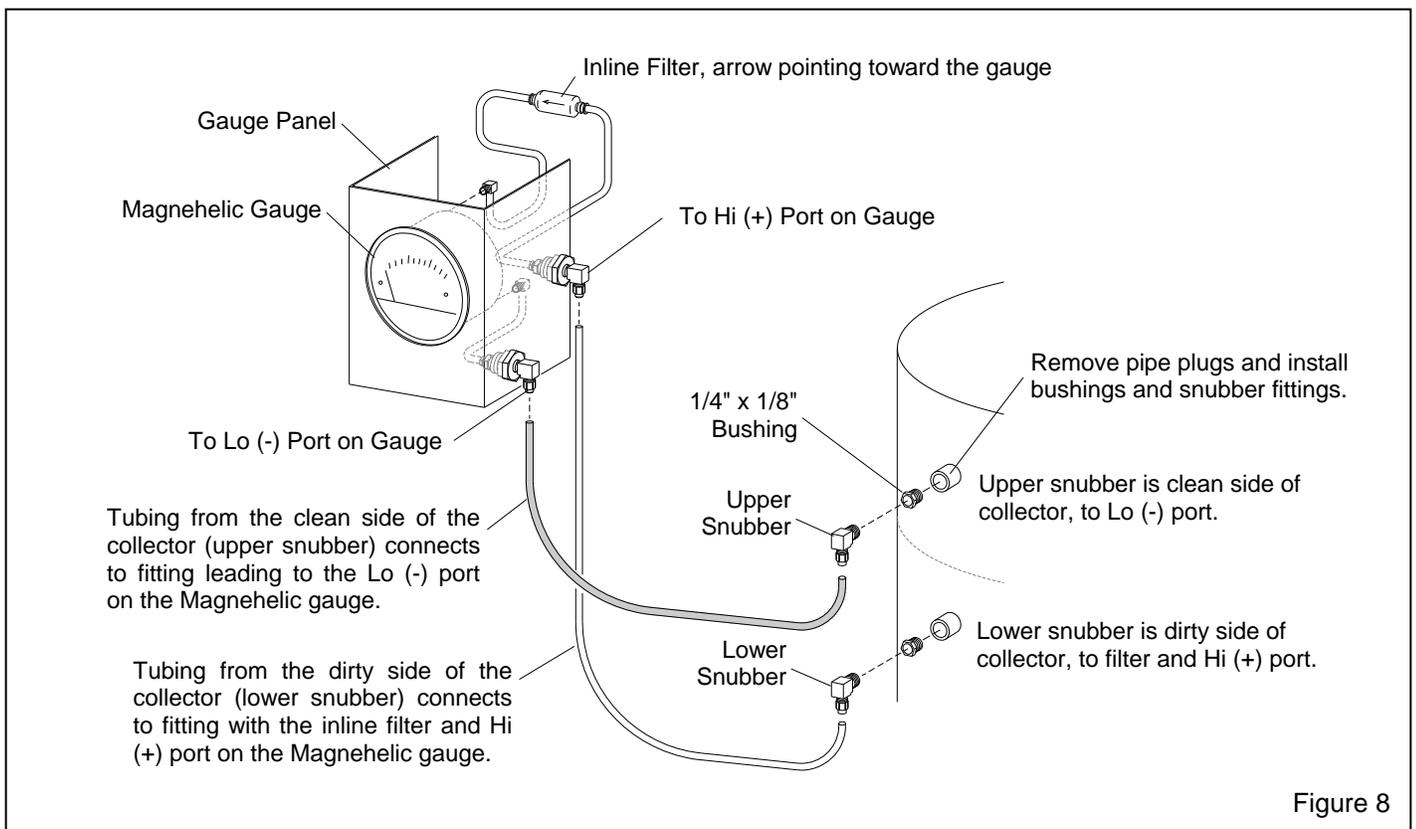

Figure 8
3.5.2 The gauge panel, gauge, filter, and panel fittings come fully assembled; the bushings, snubber fittings, and tubing are loose. Mount the panel on the cabinet or power module at a location where it can be easily monitored. One suggestion on the Pulsar VI is to mount it on top of the cabinet at either side of the light assembly. There is not enough room on a Pulsar III to mount it next to the light, choose another convenient location. Note: A 20-foot length of tubing is included with the kit, allowing the panel to be mounted within ten feet of the dust collector connections, as shown in Figure 8.
3.5.4 Remove 1/4" pipe plugs from the dust collector body, and install 1/4" x 1/8" bushings and snubber fittings as shown in Figure 8.